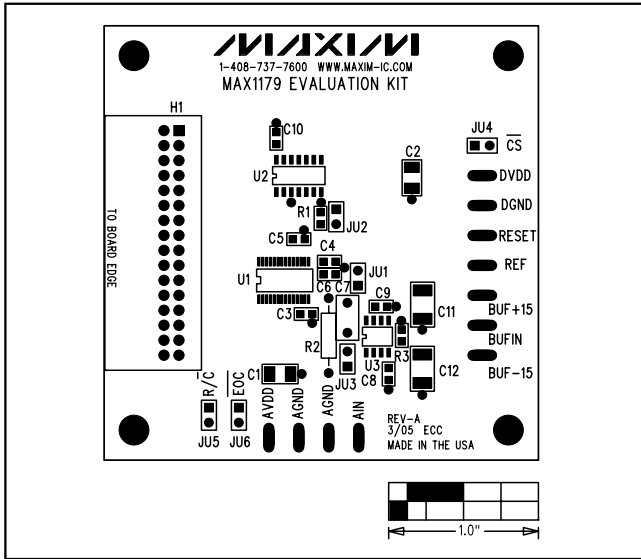

Figure 2. MAX1179 EV Kit Component Placement Guide—Component Side
- 4) Configure the pattern generator to produce the appropriate read/convert (R/C) and conversion start (CS) waveforms. Refer to Figure 2 in the MAX1179 data sheet.